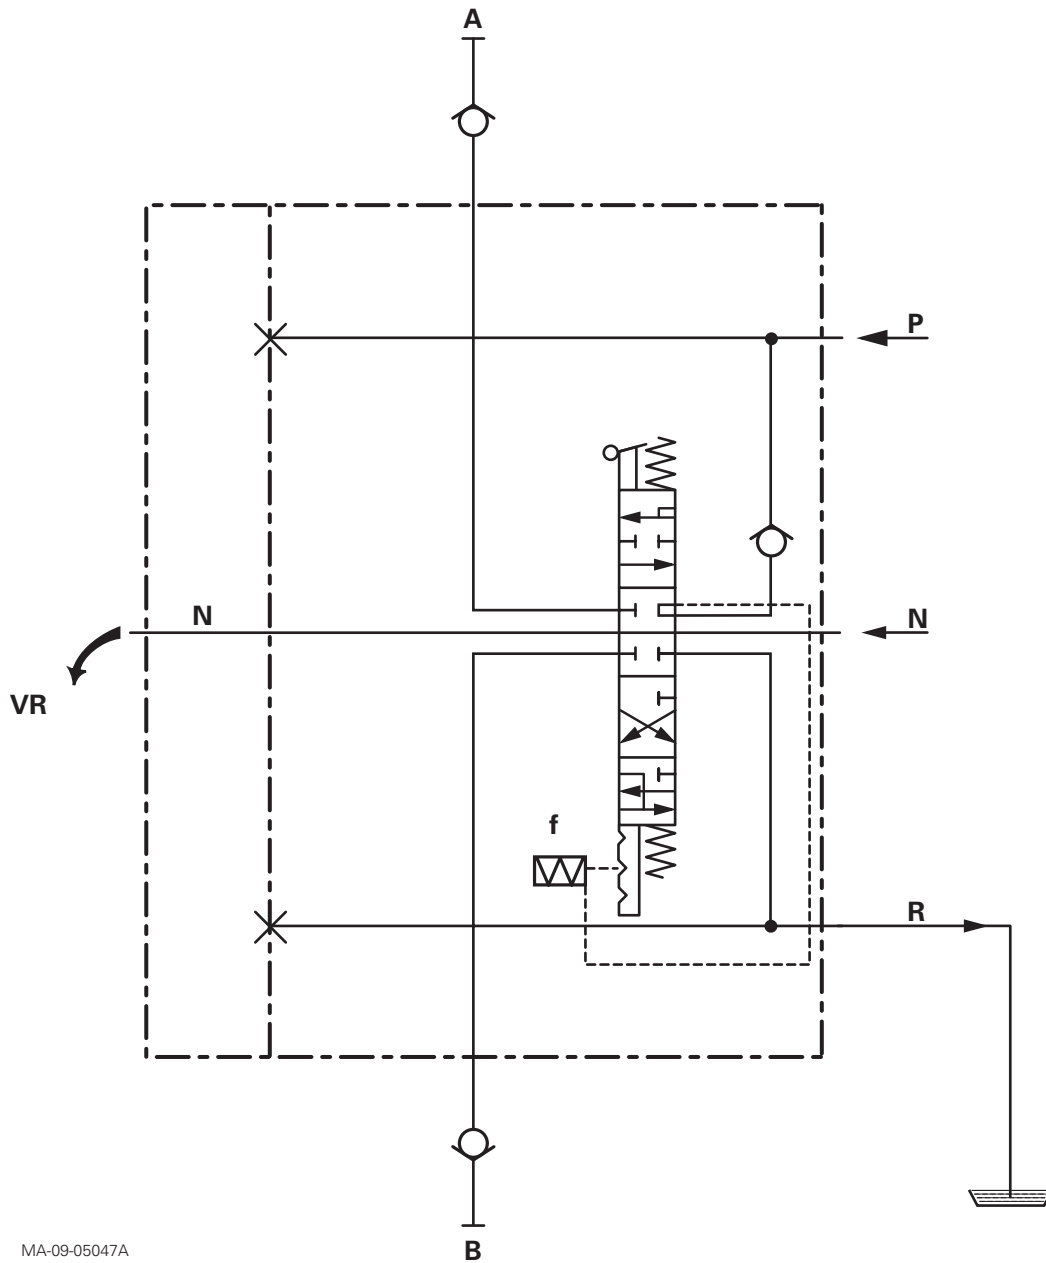

Fig. 16
The 4-position DA spool valve with automatic return to neutral and floating position has an added feature: a floating position (F) when the spool has moved its maximum distance out of the automatic return to neutral position (Fig. 16).